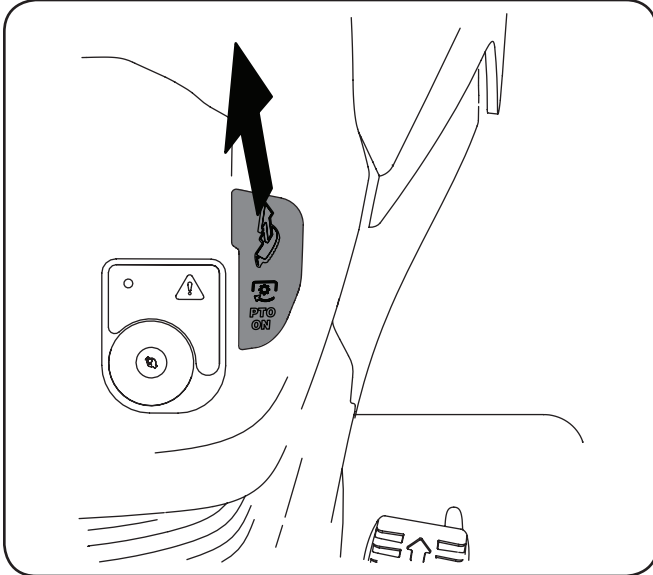

Figure 5-3
2. Pull the PTO/Blade Engage lever  upward into the ON position. See Fig. 5-3.